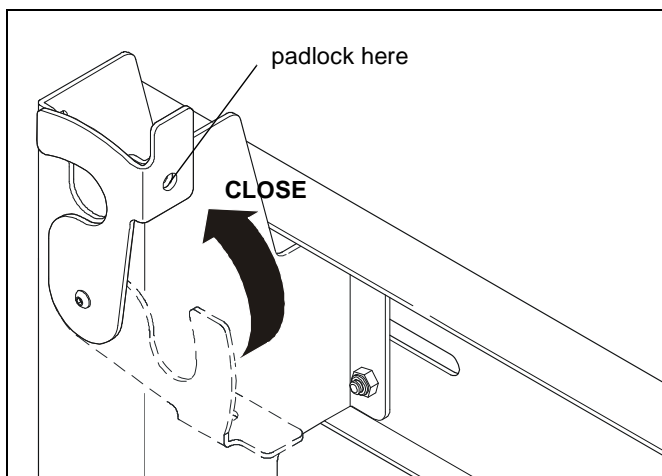

Figure 7
7. Move locking flags to CLOSED position and lock if desired. (See Figure 7)